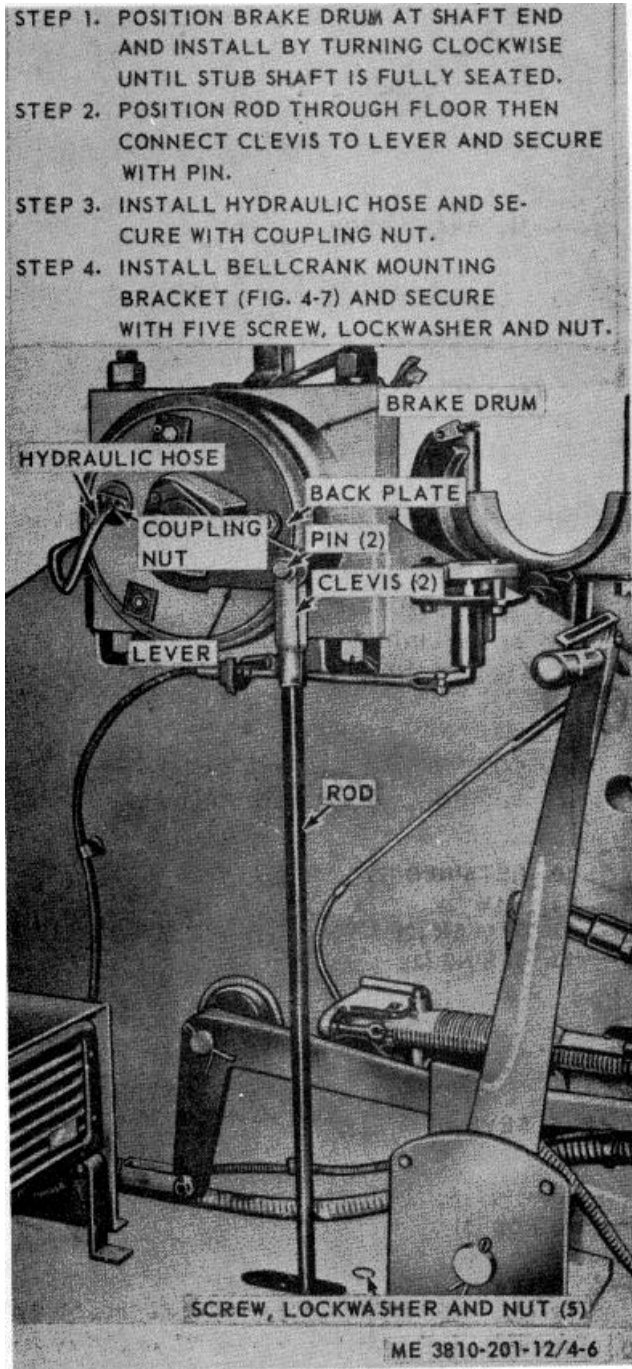
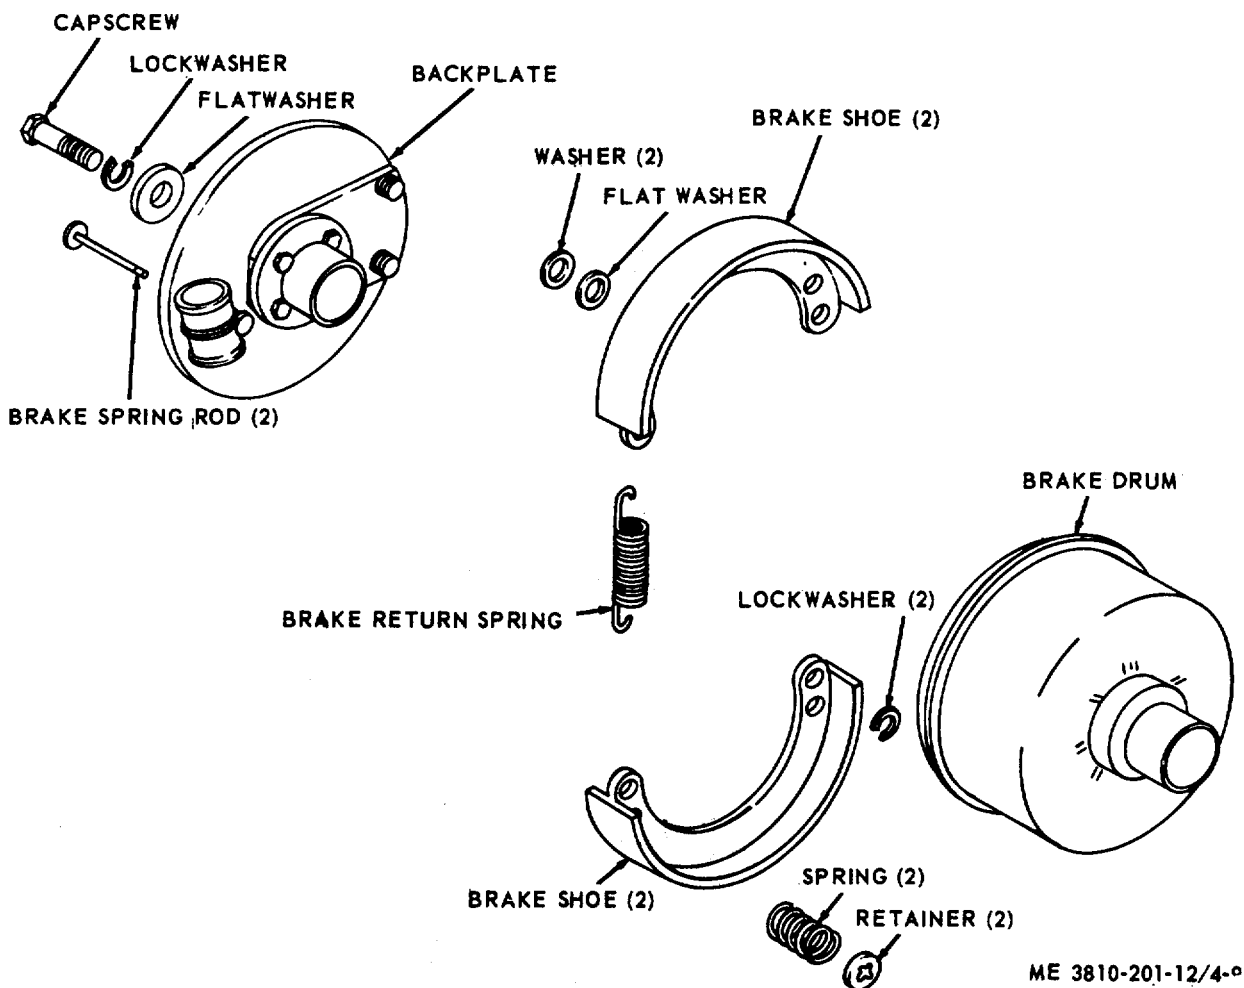

Figure 4-6. Dipper trip mechanism, removal or installation.
Figure 4-9. Clutch brakeshoes, removal and installation.
a. *General.* The dipper trip mechanism (fig. 4-6) is used for opening the door of shovel dipper only, but once installed on main hoist drum shaft, need not be removed when shovel is converted to any other front end arrangement. The boom trip line, consisting of chain from bucket door latch to dipper handle trip lever; trip line
(2) Refer to figure 4-6 and install dipper trip mechanism.
(a) Remove pin from clevis at lever (fig. 4-6) and remove clevis from lever.
(1) Remove pin (fig. 4-6) from clevis at lever and disconnect clevis.
(2) Disconnect hydraulic hose at coupling nut.
(3) Remove cap screw (fig. 4-9), lockwasher, and flatwasher, then remove backplate from brake drum.
(4) Remove two retainers, springs, and brake spring rods.
(5) Disconnect and remove brake return spring.
(6) Remove two locks, brakeshoes, washers, and flatwashers from back plate.
(1) Position brakeshoes (fig. 4-9) on back plate, install washer and flatwasher, then secure with locks.
- (2) Install brake return spring.
- (3) Install two brake spring rods, springs, and secure with retainers.
- (4) Install back plate in brake drum. Make sure lever (fig. 4-6) is in proper position, then secure back plate to mechanism with flatwasher (fig. 4-9) lockwasher, and capscrew.
- (5) Connect hydraulic hose at coupling nut, position clevis on lever, then secure with pin.